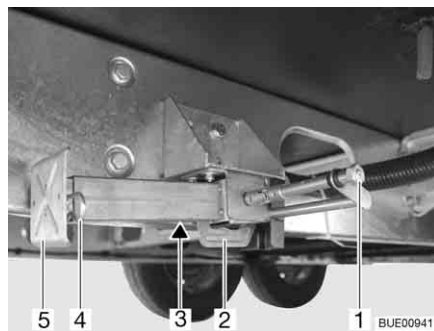

Fig. 36 Steady leg
- Place the socket spanner on the hexagon nut (Fig. 36,1) and rotate until the steady leg is in a perpendicular downward position.
- If the length of the steady leg can be adjusted, remove the splint (Fig. 36,4) out of the support foot extension (Fig. 36,5).
- Place the socket spanner on the hexagon nut (Fig. 36,1) and rotate until the steady leg is clear of the ground.
- Push in the support foot extension (Fig. 36,5) and insert the splint (Fig. 36,4) in the drilled hole in the support foot extension.
- Rotate the hexagonal nut (Fig. 36,1) until the steady leg has swung upwards and the guide (Fig. 36,2) has reached the very end of the slot (Fig. 36,3).